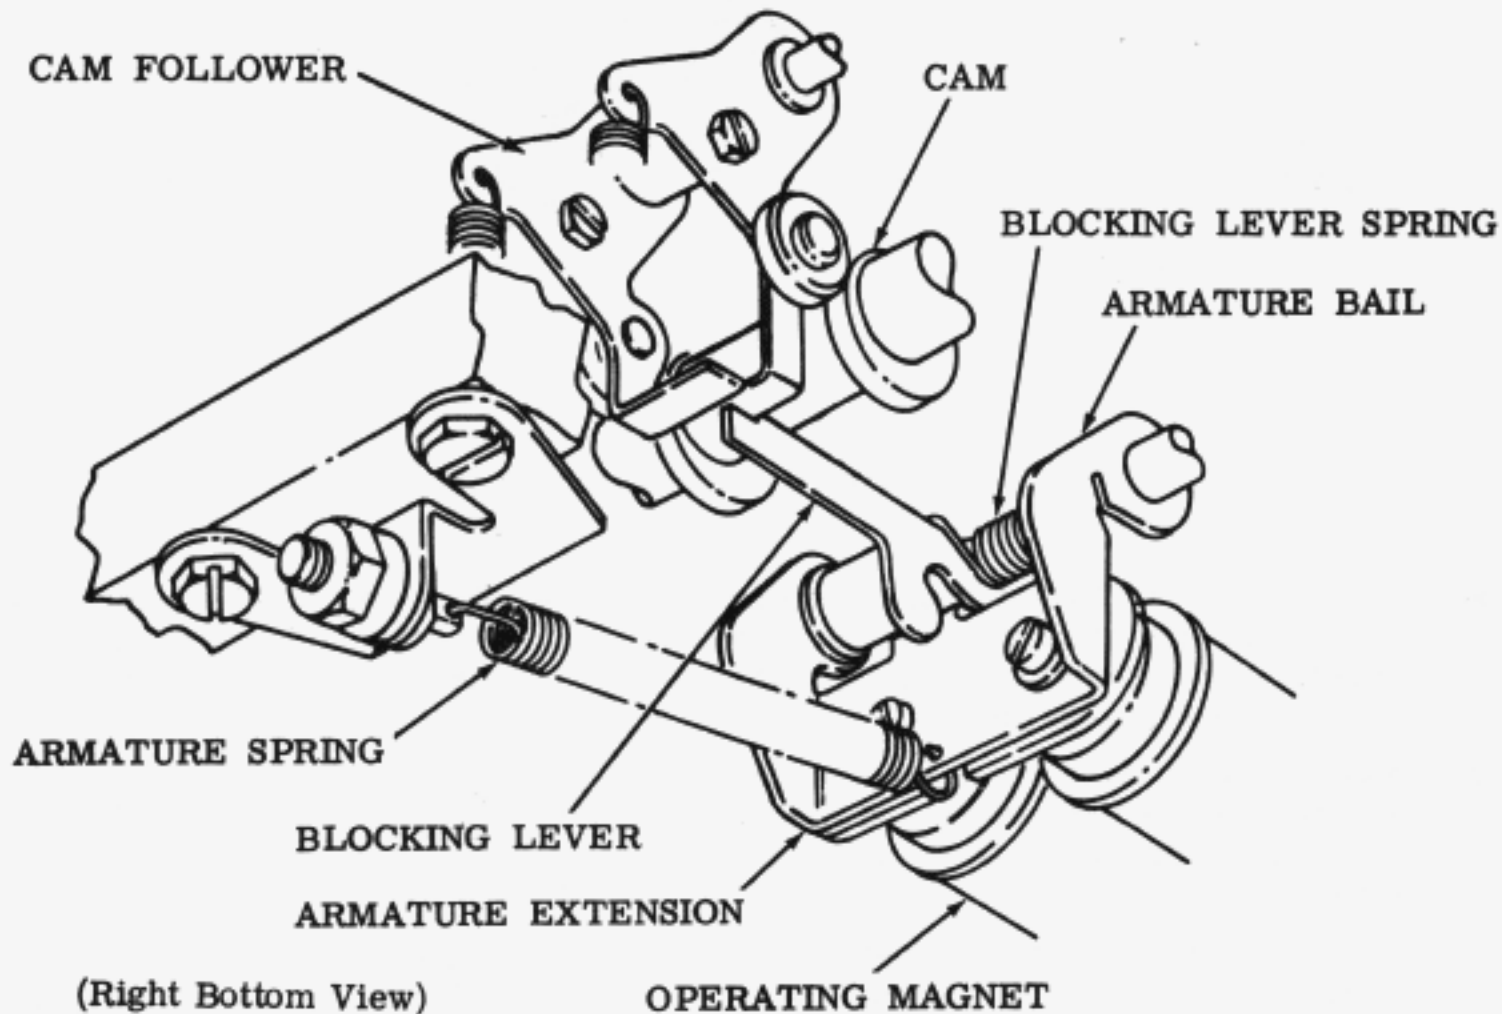

Figure 11 - Latching Mechanism
3.09 When the operating magnet is energized, the following actions occur (Figure 11):